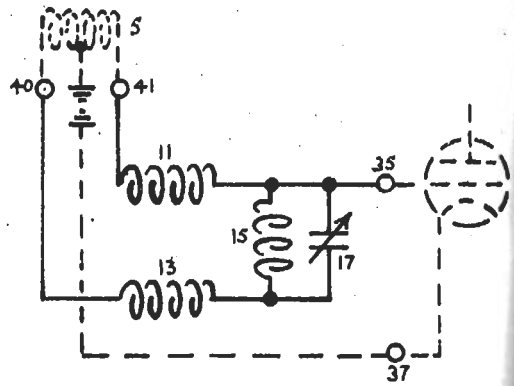

FIG. 18.
Output Switch (20) in "Stand-by" Position. A circuit diagram of the tuner in the "stand-by" position and equivalent circuits for the four positions of the primary range switch (14) are shown in Fig. 18.